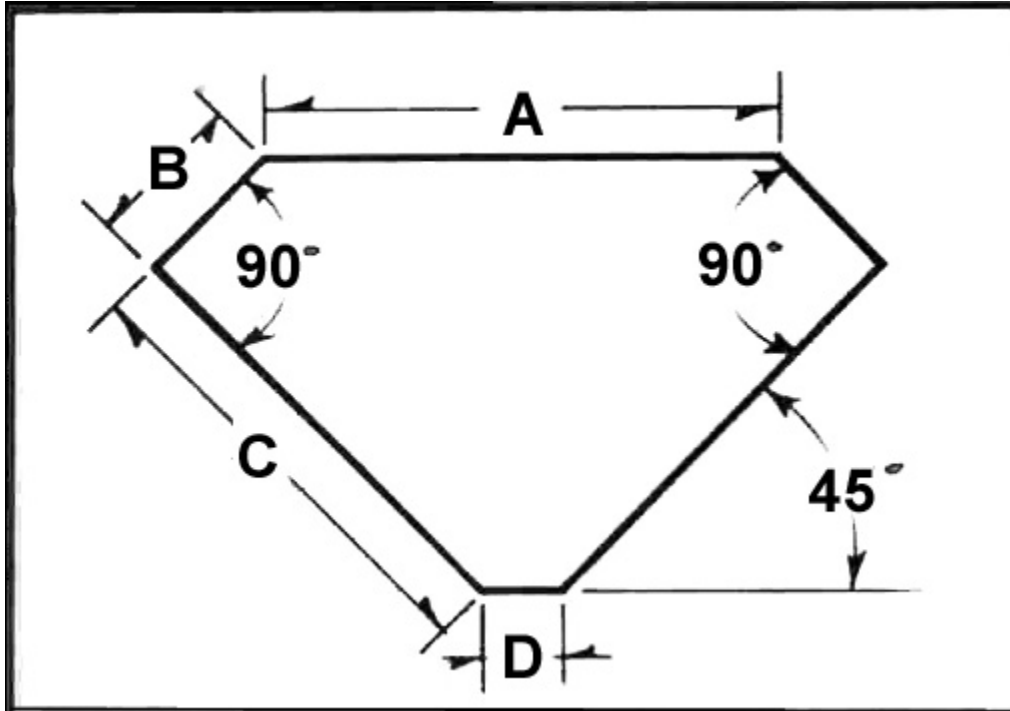

Figure 6: Shape of Top Piece (D), Shelves (E, F, G, and Bottom Piece (H)
1. Cut the top piece (D), top shelf (E), middle shelf (F), lower shelf (G) and bottom piece (H) to the shape shown in **Figure 6** using the dimensions listed in **Table 1**. **NOTE: The bottom piece (H) has the same front and side profile as the bottom shelf, BUT extends under the back support (C).**
2. Notch the lower shelf (G) to fit around the back pieces (B).